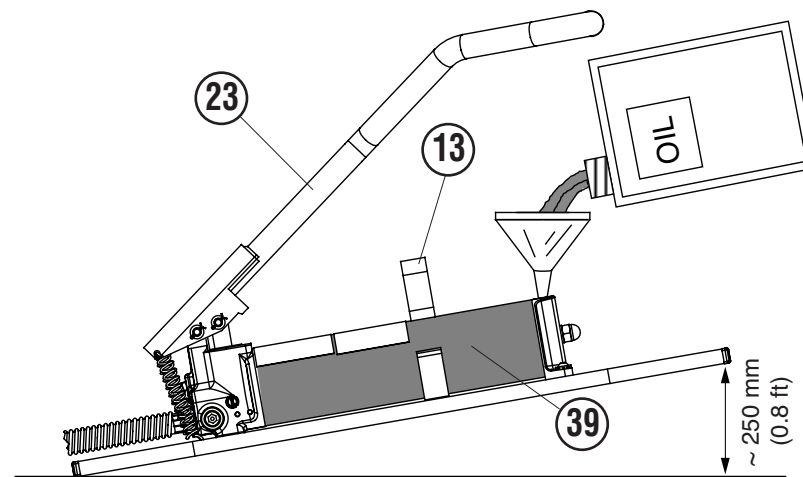

FIG. 5 OIL TOP UP
5.1) Oil top up (Ref. to Fig. 5)